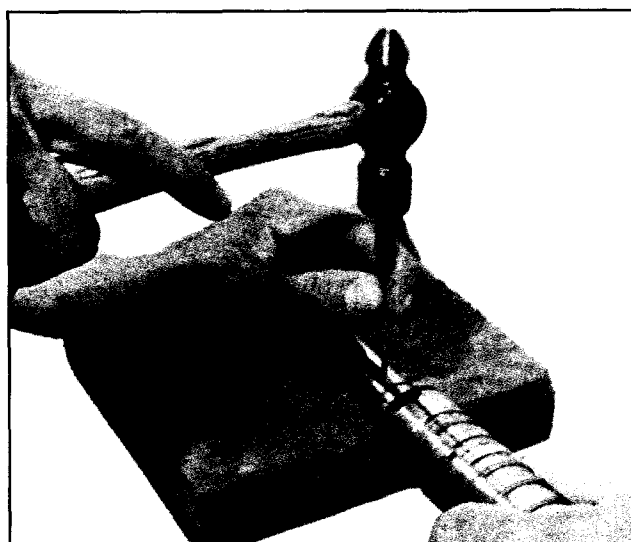
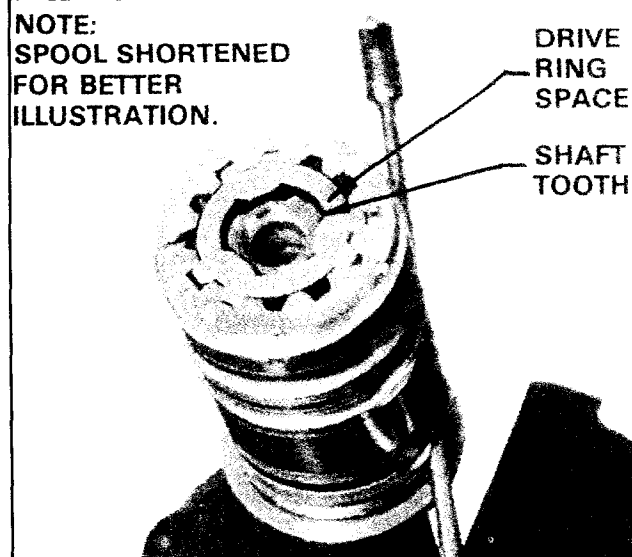
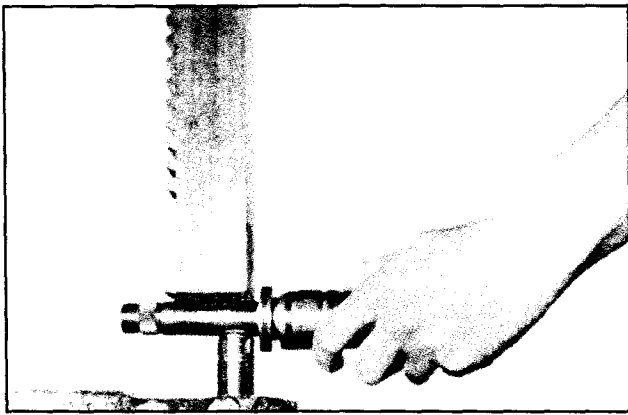

Figure HGA-12
Figure HGA-18
Figure HGA-19
17. Remove the retaining ring (10), thrust washer (11), thrust bearing (12), thrust washer (13) and spring washer (14) from input shaft (16). **Note: Retaining ring is twisted design. Do not straighten ring.**
18. Remove the needle roller (17) by using a pin punch of .125-inch max. diameter for a minimum of .625 length. The input shaft (16) should be placed on a block of wood (to avoid shaft damage) and the needle roller (21) removed by impact, using light hammer blows. (See Figure HGA-12).
10. Insert the drive ring (18) into the spool (22) end and by visually aligning an internal space on the drive ring with a tooth on the input shaft (16) split, and allow the drive ring to drop to the limit of its travel. If the drive ring does not engage the input shaft spline, a slight rotation of the input shaft will allow the drive ring to become fully engaged. Remove torsion bar (20) gage. (See Figure HGA-18).
11. Install spacer (19) over torsion bar and pin assembly (20) and insert the assembly into the spool (22) end.
12. Align the cross-hole in the torsion bar (20) with the cross-hole in the input shaft (16) and insert a .120 diameter pin punch to maintain alignment.
13. Insert the needle roller (17) into cross-hole in input shaft (16); and while retracting the pin punch, engage the pin in the torsion bar (20) cross-hole.
14. Initiate press of needle roller (17) into torsion bar (20) with a few light impacts. Press needle roller flush with outside diameter of input shaft (16) using a 1/2" drive socket of 11/16 size for supporting the input shaft. (See Figure HGA-19). With a few light impacts on a .120 diameter pin punch, drive needle roller (17) approximately 1/32 below the input shaft (16) O.D. (See Figure HGA-12).